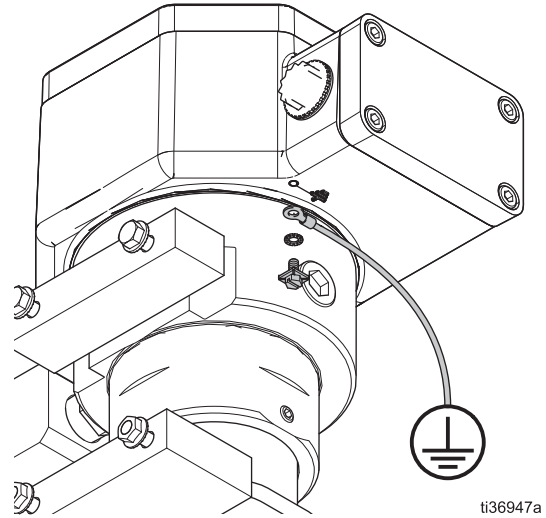

FIG. 2: External Ground Wire
2. Connect a ground wire to the external ground screw. Loosen the ground screw and attach a ground wire. See FIG. 2. Tighten the ground screw securely. Connect the other end of the ground wire to a true earth ground.